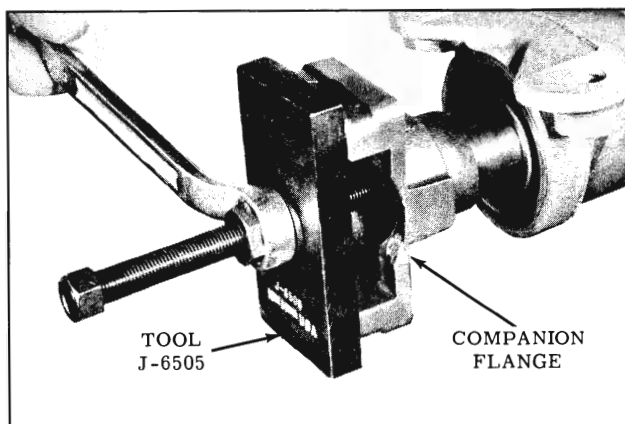

Fig. 3-324 Installing Companion Flange
76. Install the companion flange assembly, using Tool J-6505. (Fig. 3-324)